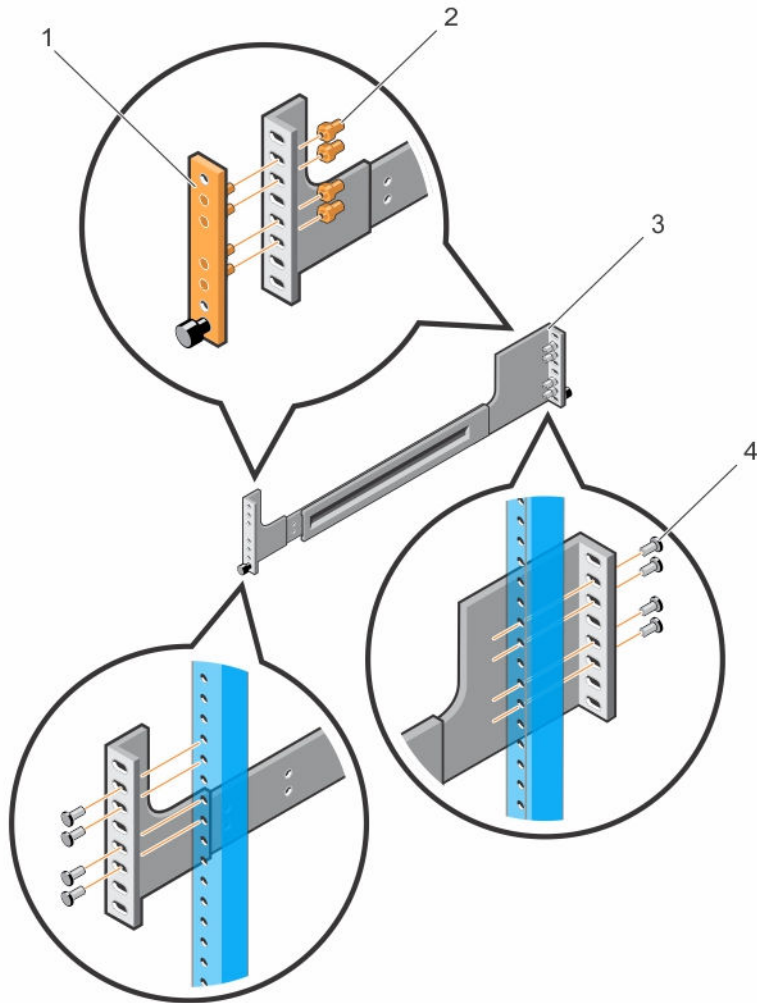
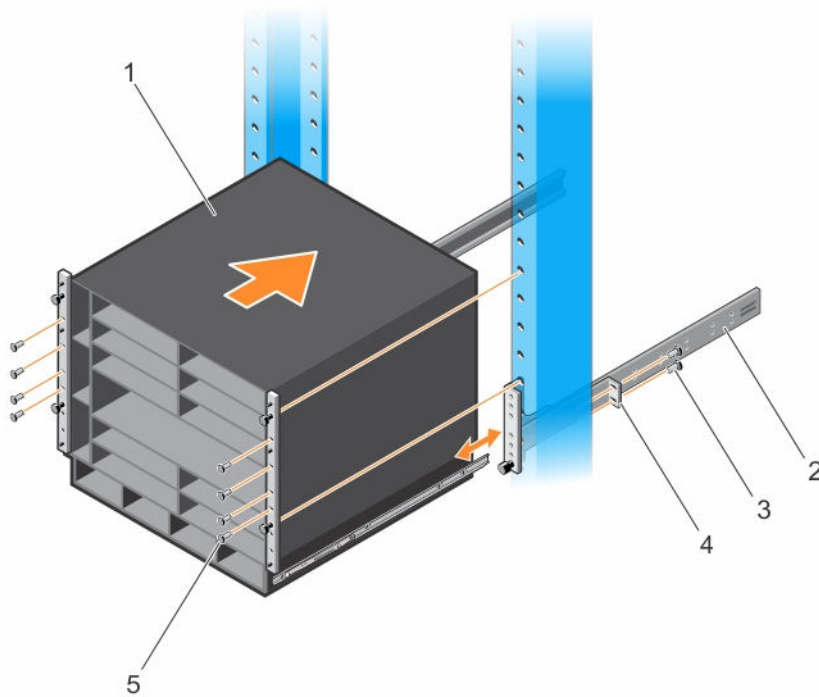

Figure 15. Installing Tooled Rails in a Threaded-Hole Rack
Figure 16. Installing the Chassis with ReadyRails in a Threaded-Hole Rack
- Using a flat-tipped screwdriver, remove the bracket subassembly and four pins (items 1, 2, and 4 in Figure 15) from the front and rear of each rail. Pull on each subassembly to fully remove it.
- Attach the front of each rail to the front rack posts using the screws provided with the rack. On a 4-post rack, slide the back end of each rail so that it aligns with the back post holes at the same height. Attach each rail to a rear post using four screws provided with the rack (item 4 in Figure 15).
4. Lift the chassis and slide it into the rails installed in the rack (Figure 16). Tighten the two thumb screws and four rack screws (item 5 in Figure 15) on each flange to secure the chassis to the rack. On a 2-post rack, slide each rail bracket (item 4 in Figure 16) forward to the post. Tighten the two screws (item 3 in Figure 16) to secure the bracket to each post.